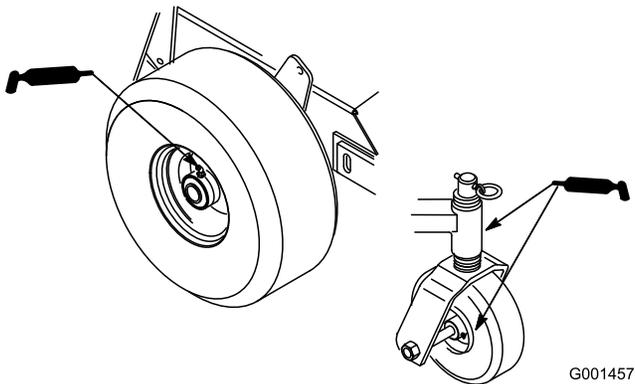

Figure 20
1. Lubricate the front wheel bearings and front spindles (Figure 20).